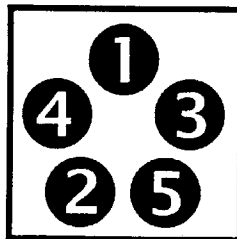

Figure 4
- WHEEL NUTS** - See page 4 figure 4 for proper tightening and checking procedure.
Tighten each lug nut three times using a crisscross pattern as shown in fig. 4. Increase the tightness each time until 90 ft/lbs. of torque has been reached.